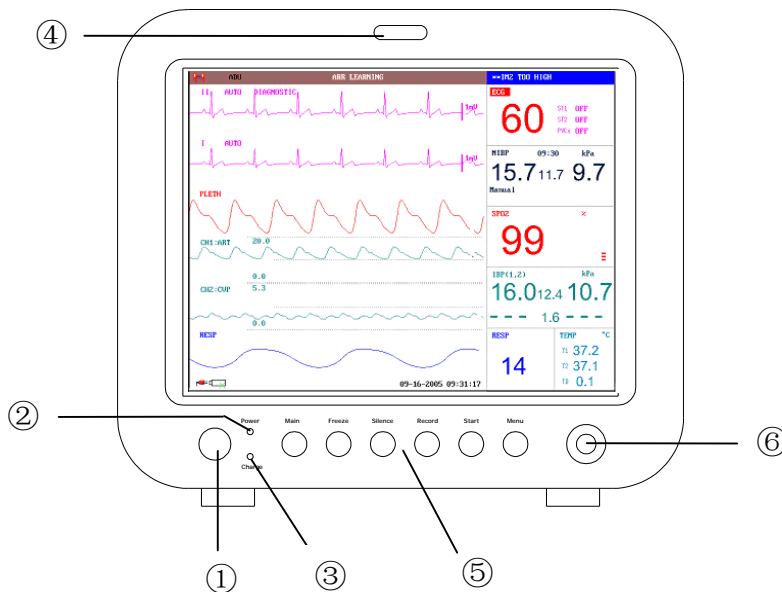

Figure 1-1 M9 Patient Monitor
The POWER switch is on the left of the front panel (Figure 1-1, 1-2 ①). The POWER indicator lights when the monitor is powered on (Figure 1-1, 1-2 ②). The CHARGE indicator shows the charging status (Figure 1-1, 1-2 ③). The ALARM indicator flashes when the alarm is triggered (Figure 1-1, 1-2 ④). The sockets of various sensors are on the left panel. Other sockets and power plug-ins are on the rear panel. The recorder is on the right panel.
The monitor is a user-friendly device with operations conducted by a few buttons and the rotary knob on the front panel (Figure 1-1, 1-2 ⑤⑥). Refer to **Button Functions**.